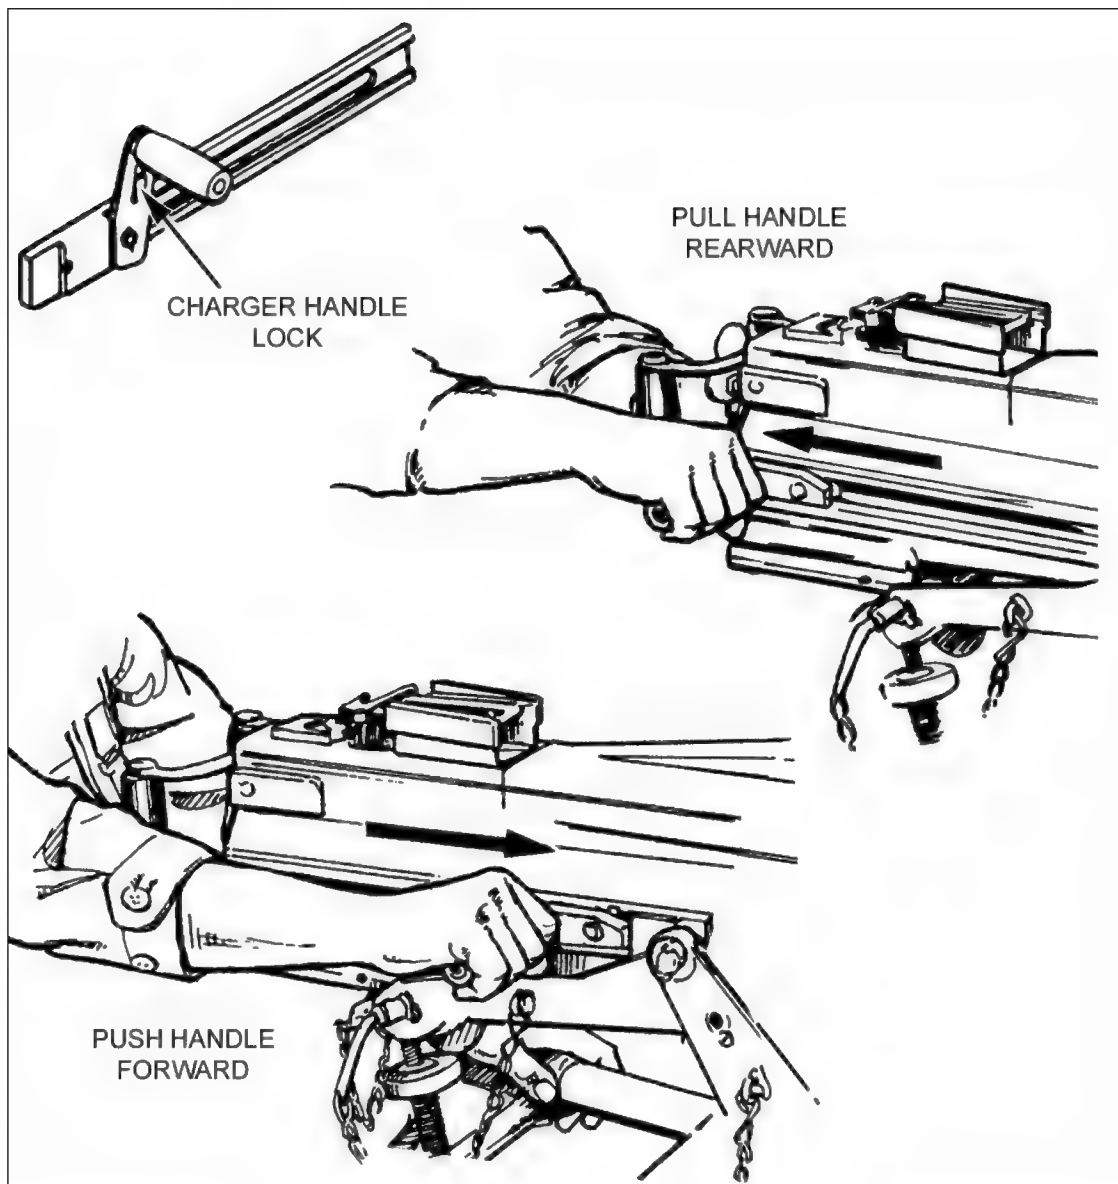
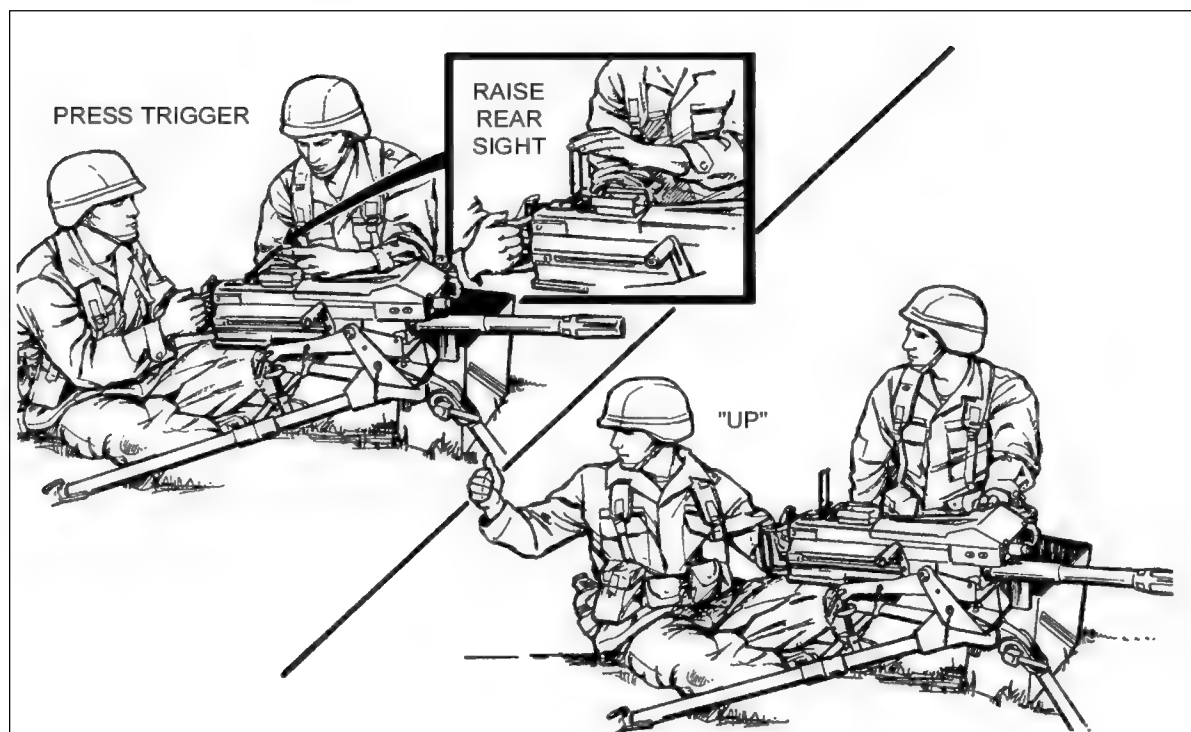

Figure H-12. Gunner charging the MK 19.
Figure H-13. Raising the rear sight.
e. The gunner closes the top cover and charges the weapon (Figure H-12). The gunner presses the trigger, which places the lead round in the bolt extractor. He charges the weapon a second time, forcing the lead round from the bolt extractors into the bolt fingers. The weapon is ready to fire. When the assistant gunner raises the rear sight, the gunner calls “Up” (Figure H-13).